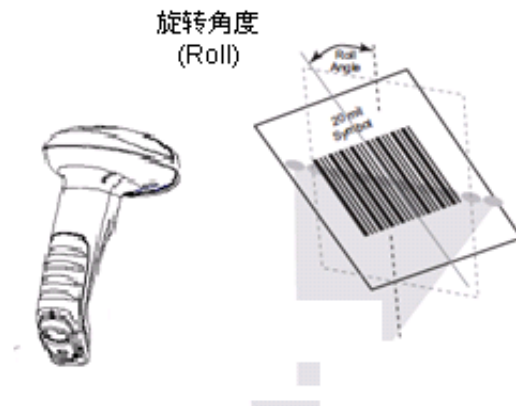

Fig. 1-14
- ◇ Roll: 360° , 0° Pitch and 0° Skew (Fig. 1-14)